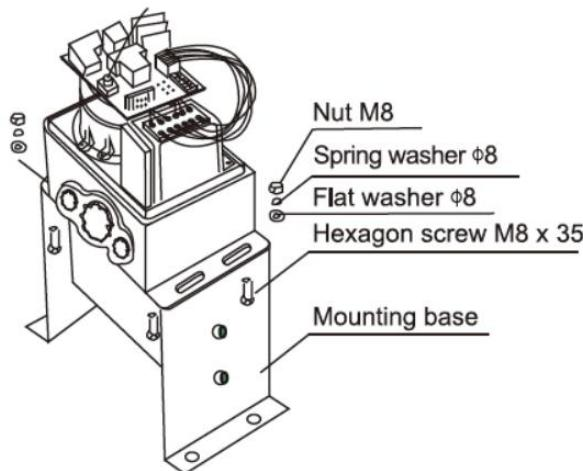

Figure 6
- c) Assemble the machine engine to the mounting base as shown in Figure 6;